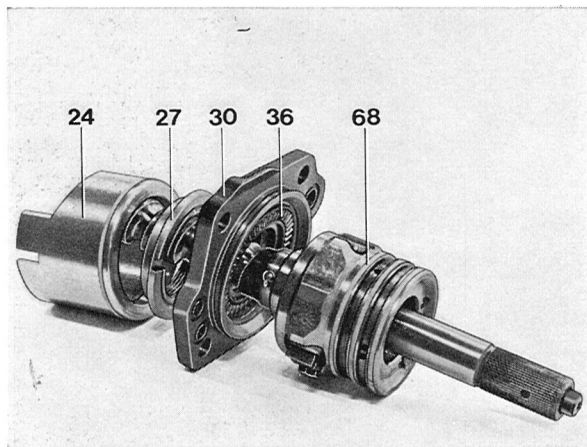

Fig. 6-95. Worm components
8. Place the O-ring (26) and the piston ring (25) in the recess on the sleeve (24). Install the pre-assembled cover (30) with bearing washer (35), bearing (36), ring (27) and sleeve (24) on the worm, see Fig. 6-95.